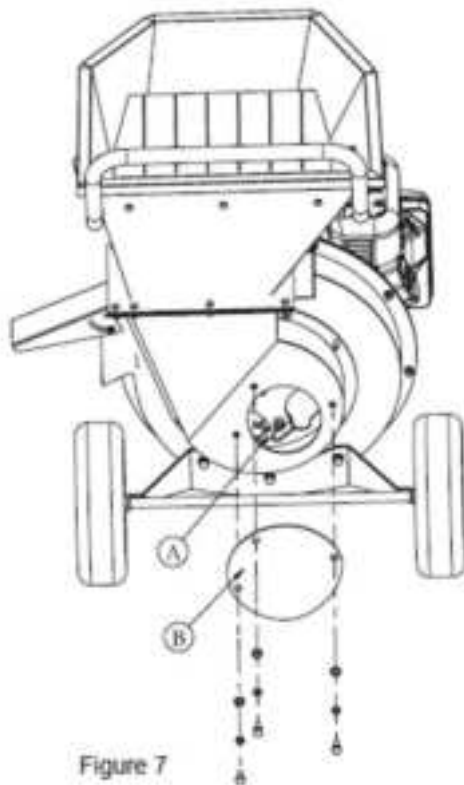

Figure 7
Inspect / Rotate Shredding Hammers (See Figure 7)
2. Remove the small circular access panel (B) from the back of the shredder housing. See Figure 7.
3. Inspect the cutting edges of the Y-hammers (A).